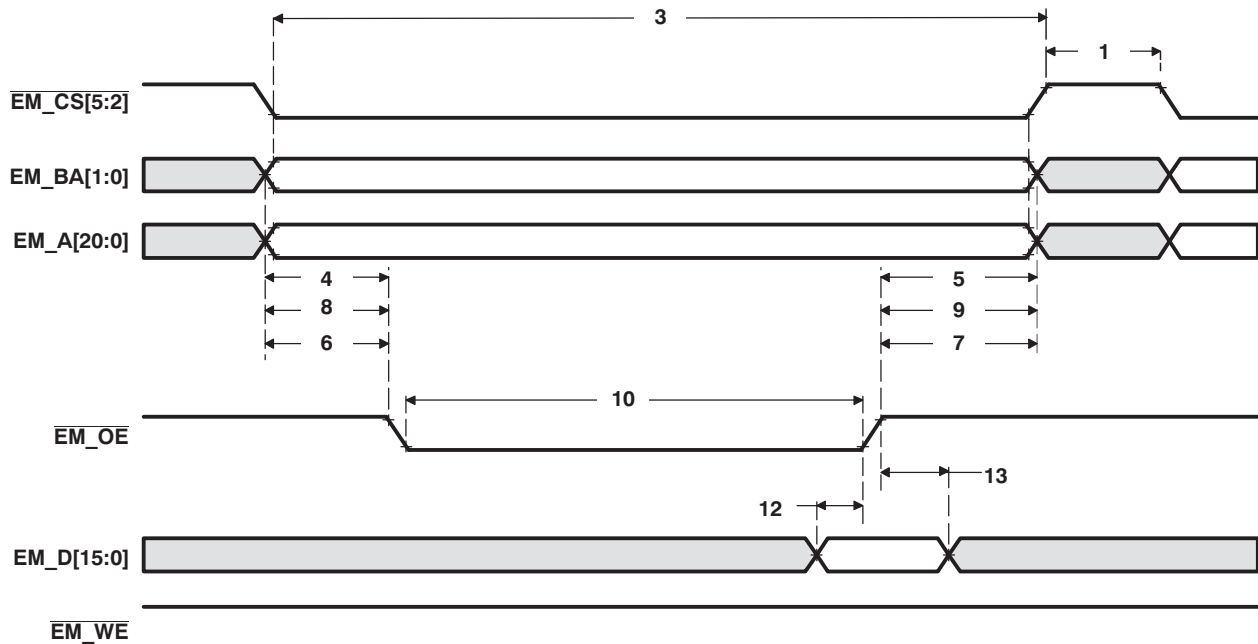
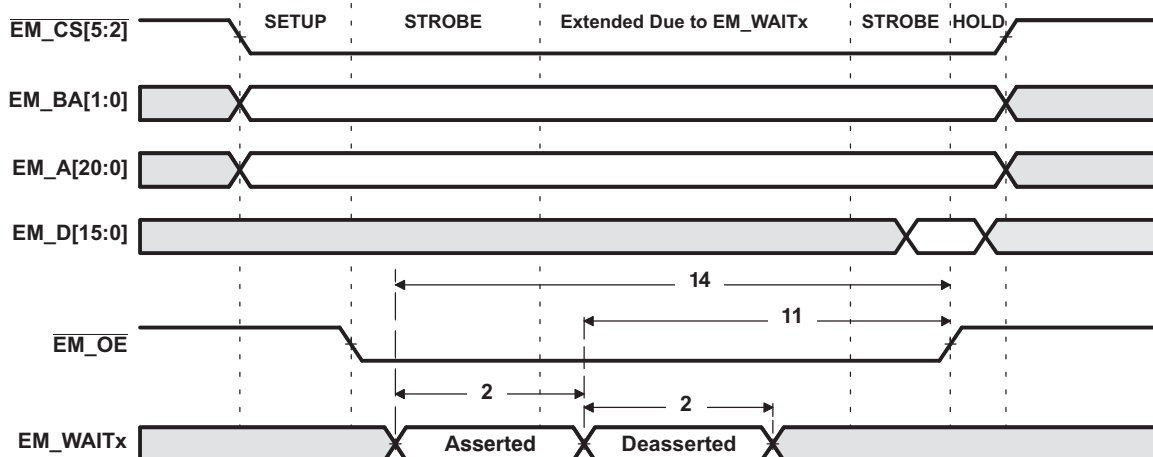
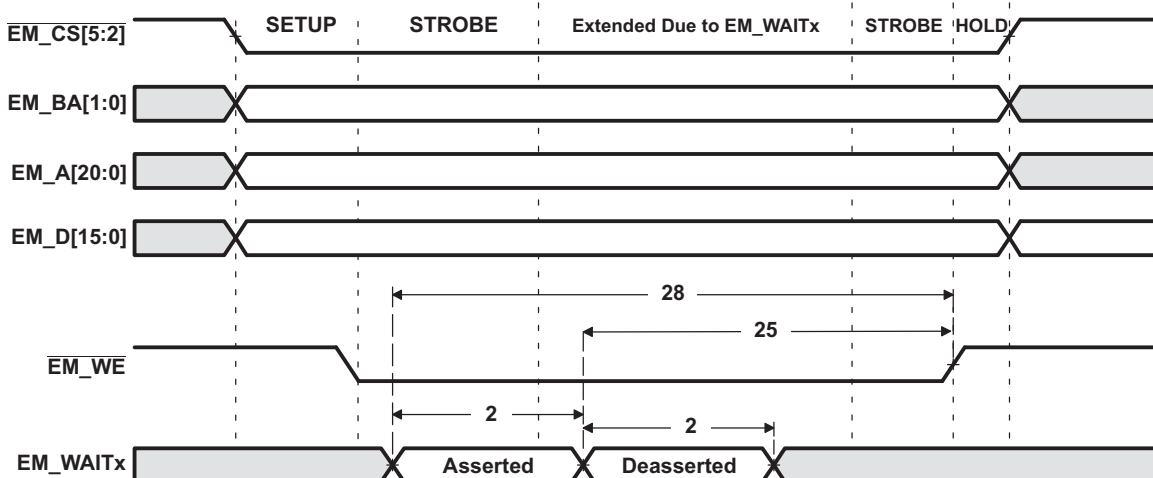

Figure 5-24. Asynchronous Memory Read Timing for EMIF
Figure 5-26. EM_WAITx Read Timing Requirements
Figure 5-27. EM_WAITx Write Timing Requirements
- (1) Timing parameters are obtained with 10pF loading on the EMIF pins.
- (2) E = SYSCLK period in ns. For example, when SYSCLK is set to 75 or 200 MHz, E = 13.33 or 5 ns, respectively.
- (3) Setup before end of STROBE phase (if no extended wait states are inserted) by which EM_WAITx must be asserted to add extended wait states. Figure 5-26 and Figure 5-27 describe EMIF transactions that include extended wait states inserted during the STROBE phase. However, cycles inserted as part of this extended wait period should not be counted; the 4E requirement is to the start of where the HOLD phase would begin if there were no extended wait cycles.
(see Figure 5-24, Figure 5-26, and Figure 5-27)
(see Figure 5-24, Figure 5-26, and Figure 5-27) (continued)
⁽⁴⁾ (see Figure 5-24, Figure 5-26, and Figure 5-27)
⁽⁴⁾ (see Figure 5-24, Figure 5-26, and Figure 5-27) (continued)